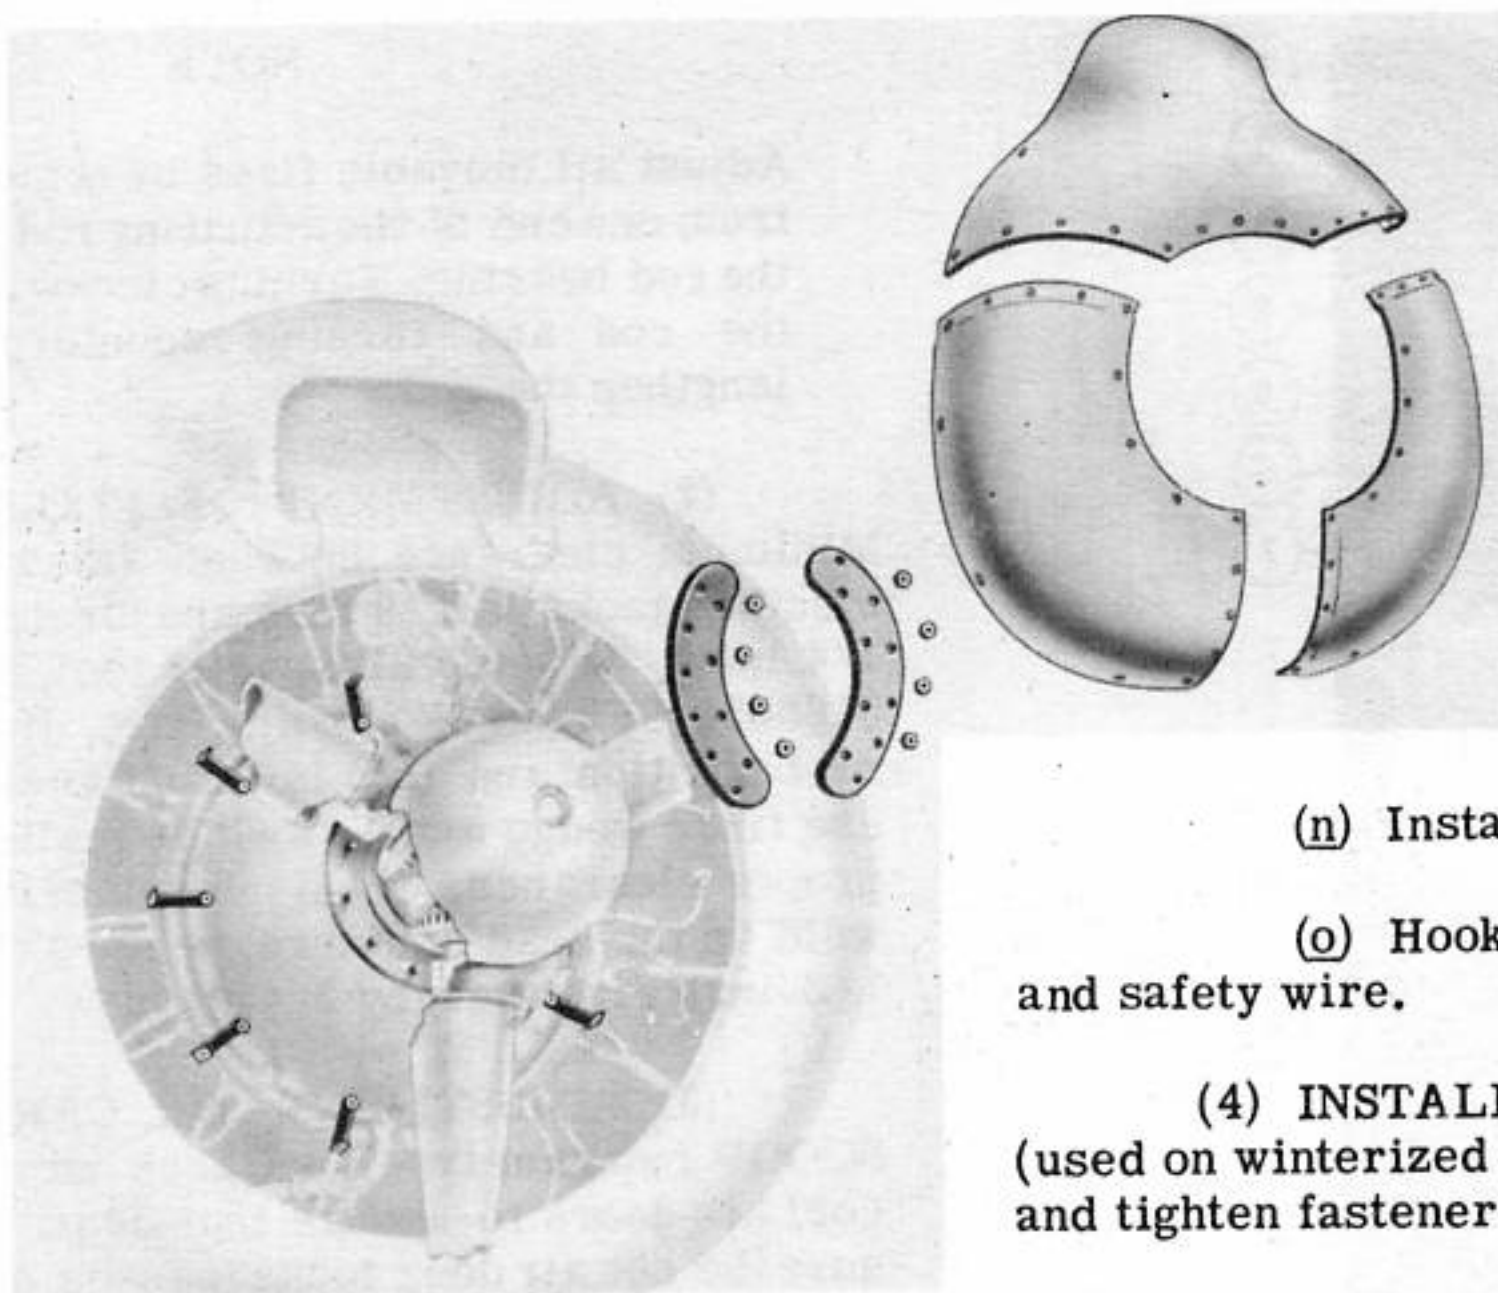

Figure 57
(6) REMOVAL OF DISHPAN COVER. (See figure 57.) - Unlock fasteners and pull cover off.
(4) INSTALLATION OF DISHPAN COVER (used on winterized airplanes only). - Place cover ON and tighten fasteners. (See figure 57.)